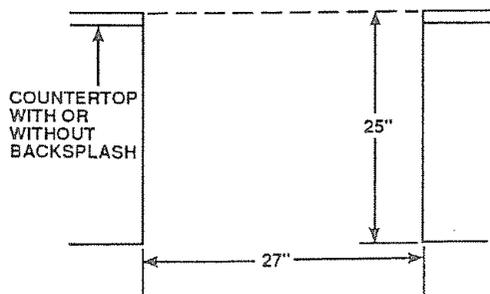
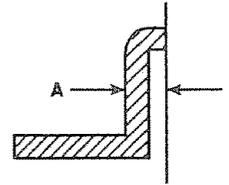

Fig. 3
FIG. 4
**NOTE:** If the distance from the back wall to the front of the counter backsplash (Dimension A in Fig. 4) is greater than 1 1/8", there will be a small gap between the wall and the edge of the backguard. This is normal and should not be visually objectionable (See Figs. 3 & 4).